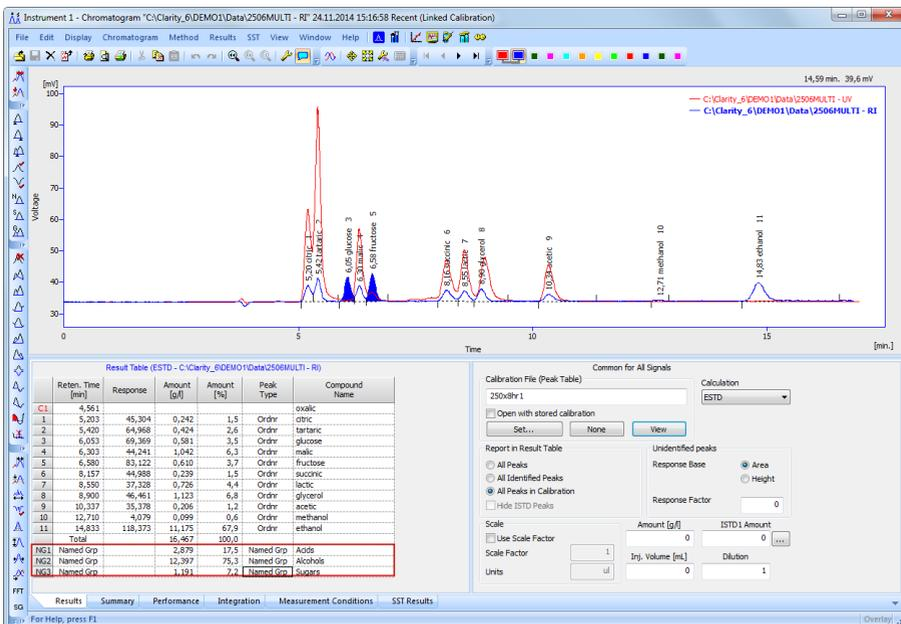

Fig 10: Chromatogram with named groups defined in the Calibration
- Defined **Named Groups** in the **Calibration** will be displayed in the **Chromatogram** - in the **Result table** below the **Total Row**. One compound can be present in several named groups. Not supported in the **Chromatogram** - Summary table. For more details see **Fig 10** on pg 10.